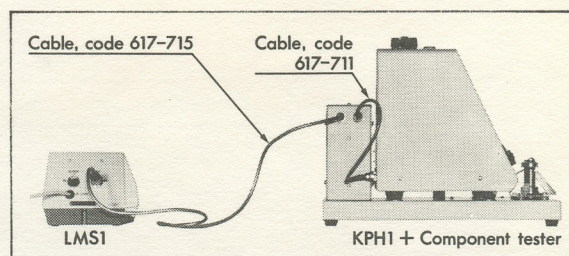

Fig.E2. How to connect the Limit Sensor, type LMS1, to a Component Jig, type KPH1, and to a component tester.
1) Connect the Limit Sensor, type LMS1, to the Component Jig, type KPH1, by means of the Cable, code 617-715, supplied with LMS1 (see Fig.E1). To do so, refer to Fig.E2.